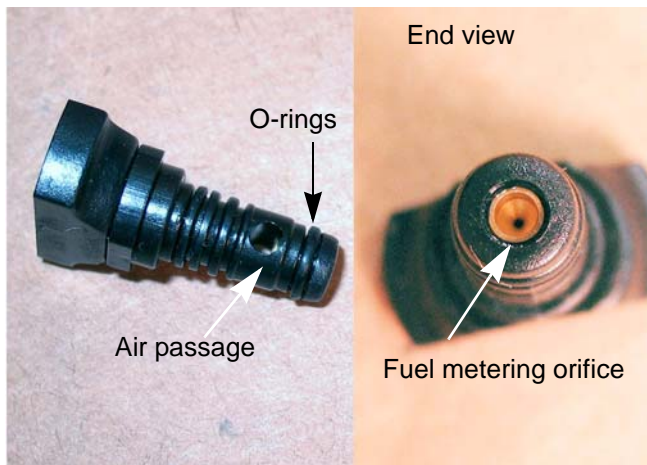

Figure 4.13
9. Examine the metering plug: See Figure 4.13.